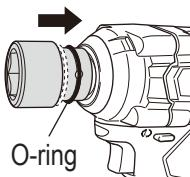
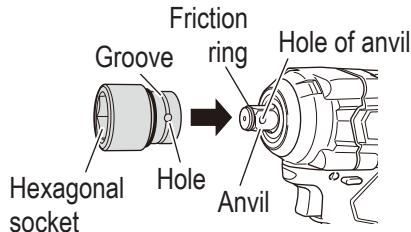

Fig. 11
Fig. 12
(3) While making sure that the pin doesn't fall, attach the O-ring to the groove on the socket. (Fig. 11, Fig. 12)